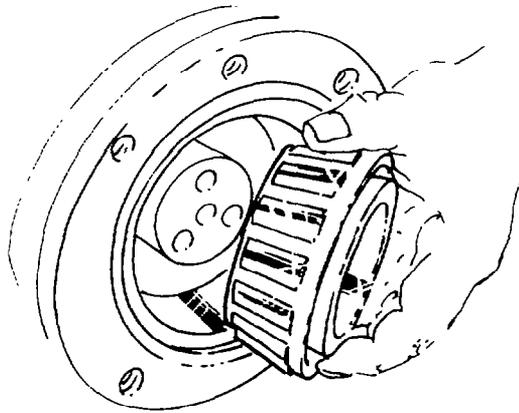

Fig. 326 — Installing Bearing Cone
- p. Install the correct sized spacer (determined while preloading the bearing), then install the bearing cone as shown in fig. 326.